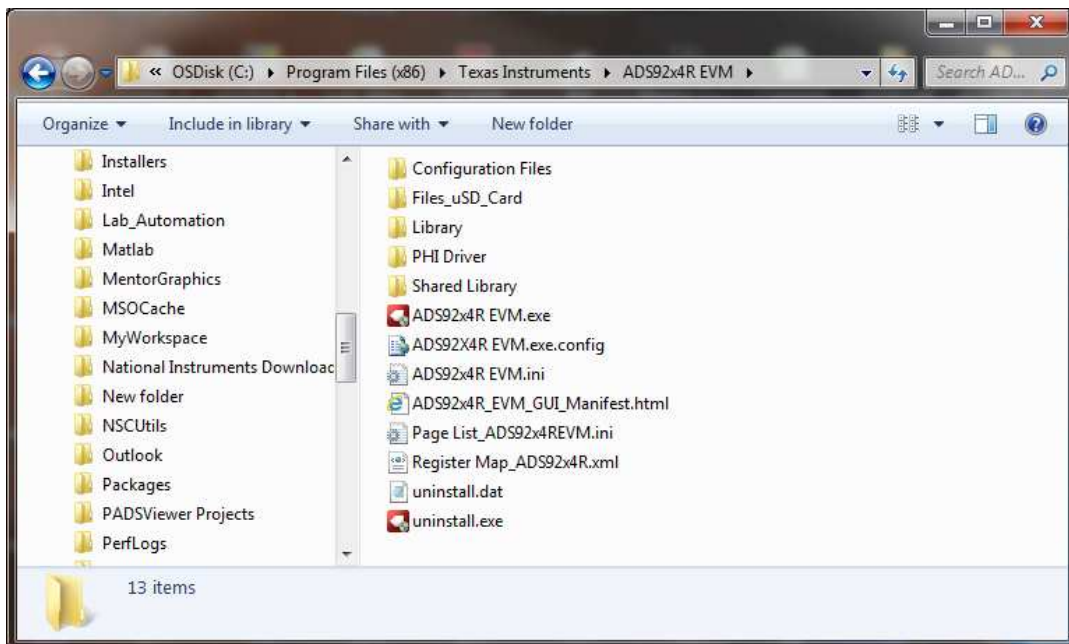

Figure 9. Launch the EVM GUI Software
3. Double-click on the *ADS92x4R EVM.exe*, file to launch the ADS9224REVM-PDK GUI software. Figure 9 shows the ADS9224REVM software folder.